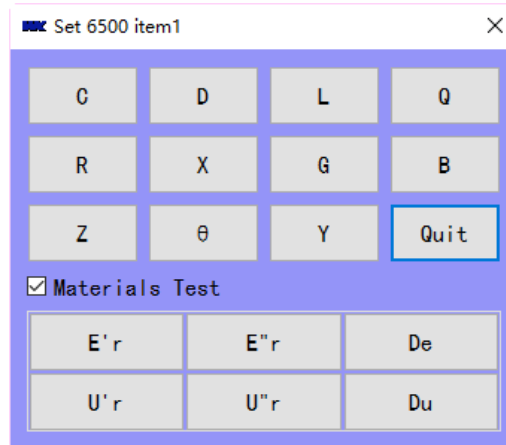

Figure 2-2
Click on the button for item 1 or item 2 will appear as shown in Figure 2-2 interface, only when 6500 has material options, the following parameters will appear, other instruments item options will have different dialog.